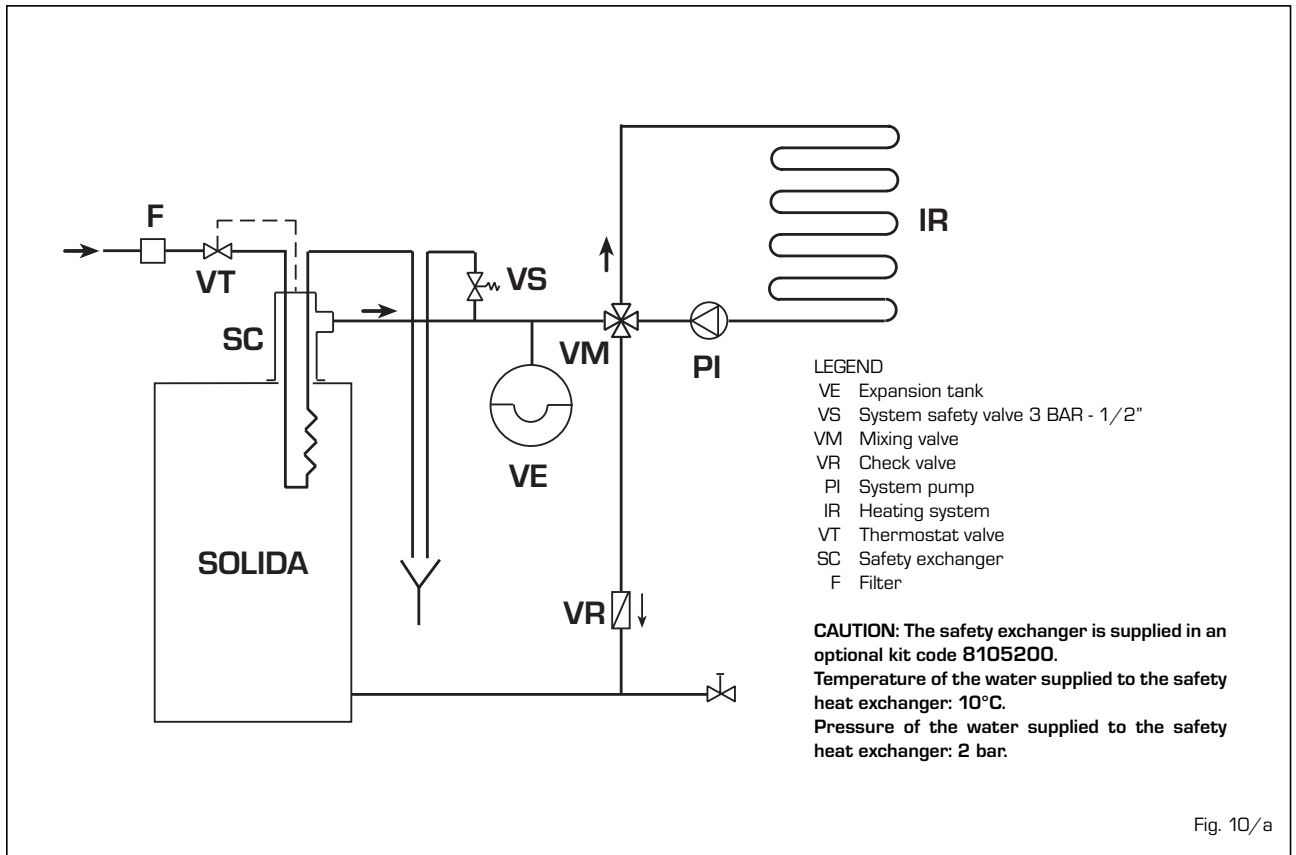

Fig. 10/a
- The installation where the boiler is connected to, should be preferably with an open expansion tank (fig. 10).